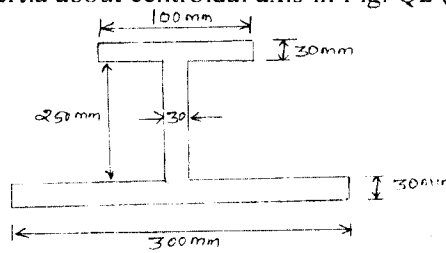

Fig. Q2 (b)
- b. Find the moment of inertia about centroidal axis in Fig. Q2 (b). (14 Marks)